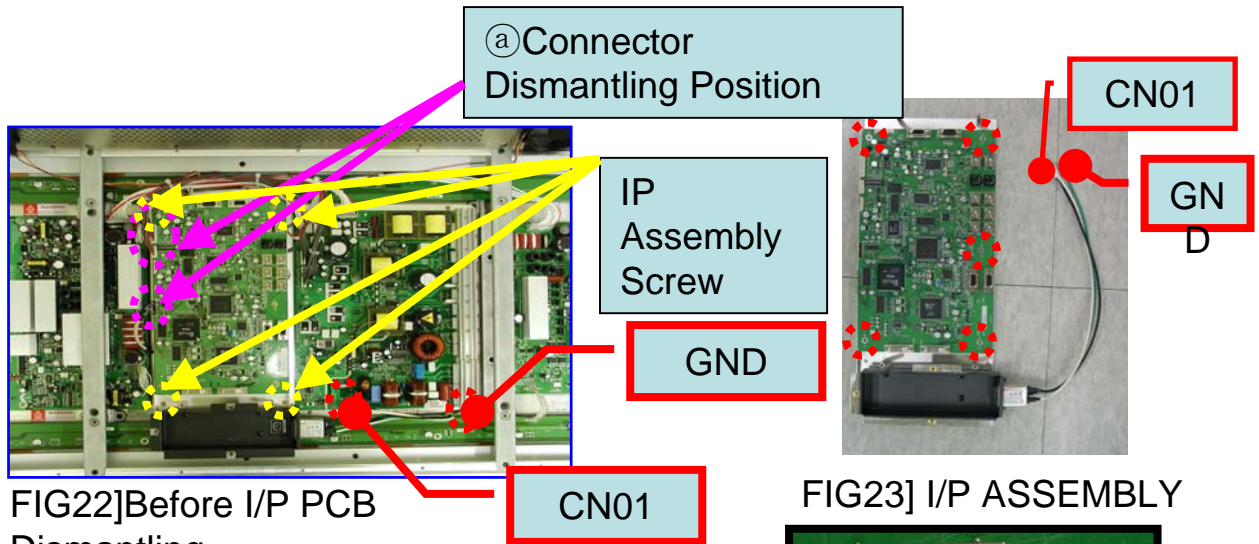

FIG23] I/P ASSEMBLY
- ⑤ Remove I/P PCB from the dismantled IP assembly[Fig. 23].